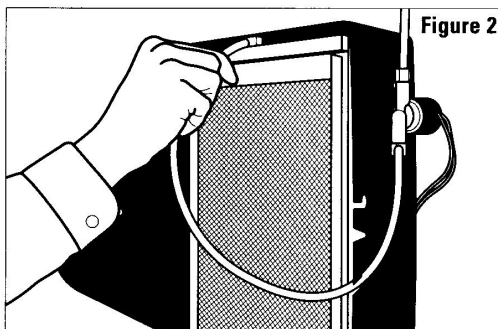

Figure 2
**4.** Re-install the Water Panel Evaporator assembly back into the base, with the bottom of the scale control insert (6) sitting firmly in the inside of the drain spud (9). Push the feed tube back into the water distribution tray. (See Figure 2) Put the front cover back on. If the nameplate (11) is upside down, remove it by gently squeezing the tabs of the nameplate from inside the cover and pushing out. Rotate the nameplate so it is right side up, and snap back into place. Turn damper handle (8), to the open position "winter" for the heating season or closed position "summer" for the cooling season.